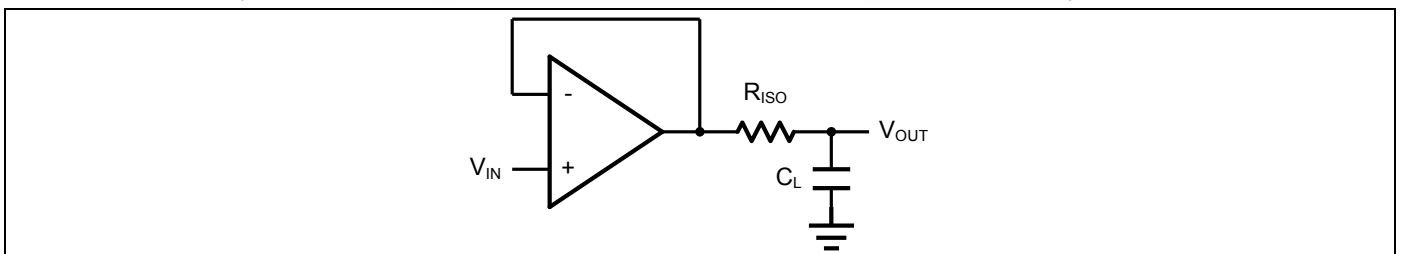
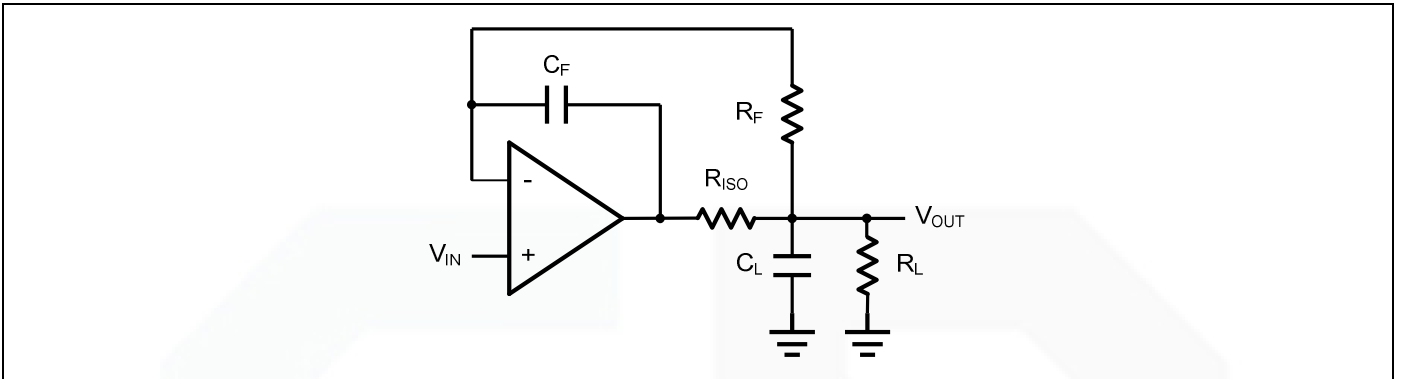

Figure 2. Indirectly Driving a Capacitive Load Using Isolation Resistor
Figure 3. Indirectly Driving a Capacitive Load with DC Accuracy
The GS804X family is optimized for bandwidth and speed, not for driving capacitive loads. Output capacitance will create a pole in the amplifier's feedback path, leading to excessive peaking and potential oscillation. If dealing with load capacitance is a requirement of the application, the two strategies to consider are (1) using a small resistor in series with the amplifier's output and the load capacitance and (2) reducing the bandwidth of the amplifier's feedback loop by increasing the overall noise gain. Figure 2. shows a unity gain follower using the series resistor strategy. The resistor isolates the output from the capacitance and, more importantly, creates a zero in the feedback path that compensates for the pole created by the output capacitance.
The circuit in Figure 3 is an improvement to the one in Figure 2.  $R_F$  provides the DC accuracy by feed-forward the  $V_{IN}$  to  $R_L$ .  $C_F$  and  $R_{ISO}$  serve to counteract the loss of phase margin by feeding the high frequency component of the output signal back to the amplifier's inverting input, thereby preserving the phase margin in the overall feedback loop. Capacitive drive can be increased by increasing the value of  $C_F$ . This in turn will slow down the pulse response.